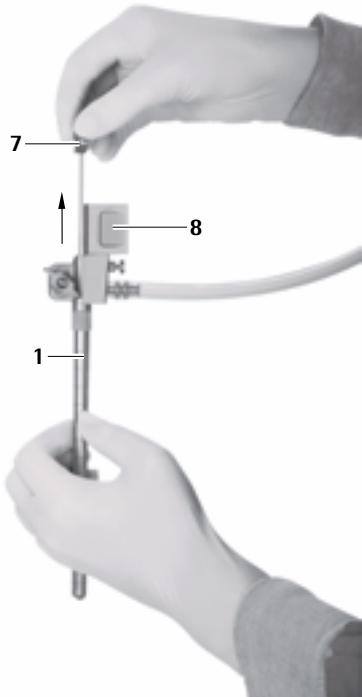

Fig. 9
- ▶ Remove obturator for the oval working channel **7** carefully from the MINOP inVent trocar **1**, see Fig. 9.